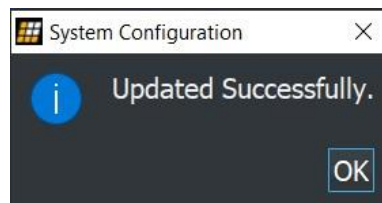

Figure 7.30. User Interface Application PDM Data: Updated Successfully Window
3. Click **Apply** and **OK**. The *Updated Successfully* message appears as shown in Figure 7.30.